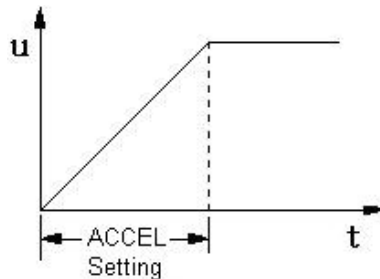

Figure 1
3. ACCEL Soft-start time adjustment: ACCEL (see figure 1)